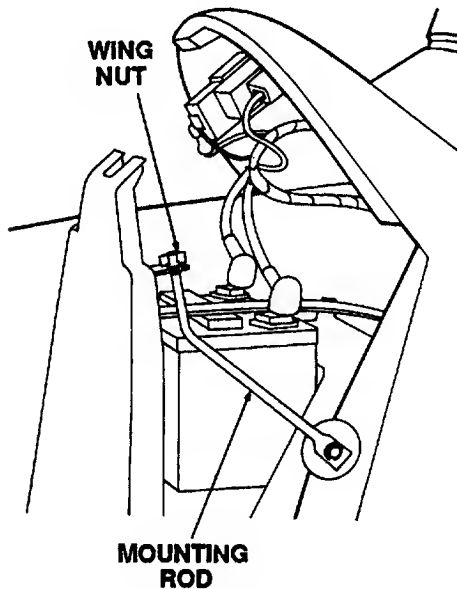

Figure 31
2. Remove the wing nut securing the mounting rod to the bulkhead mounting bracket (Refer to Figure 31) and pull the rod downward from the bulkhead bracket.
10. Rotate the mounting rod downward and insert through the bottom of the hole in the bulkhead mounting bracket (See Figure 31).